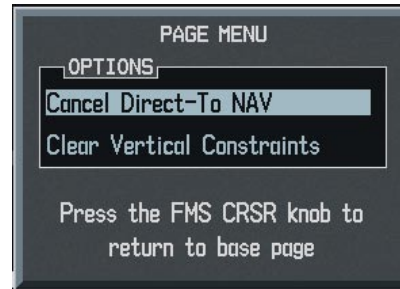

Figure 5-30 Cancel Direct-to Option
- 3) With 'Cancel Direct-To NAV' highlighted (Figure 5-30), press the **ENT** Key. If a flight plan is still active, the G1000 resumes navigating the flight plan along the closest leg.